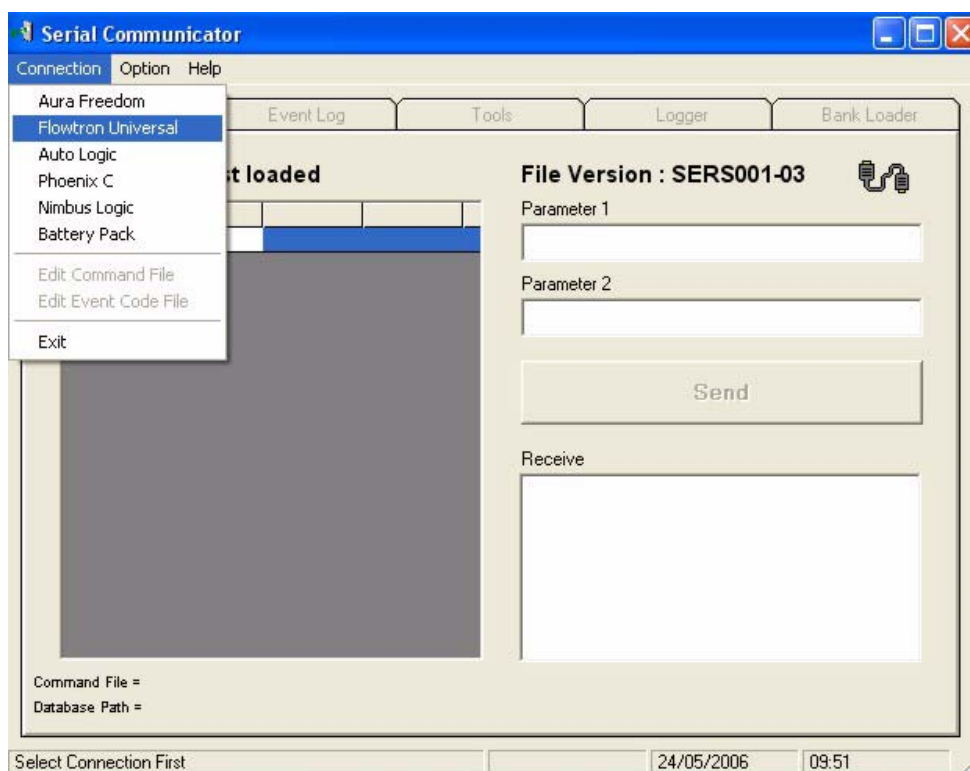

Figure 82 - Communicator Software - Selection of Flowtron Universal Command List
- 4.4 Click **Connection**, then click **Flowtron Universal** (refer to Figure 82).